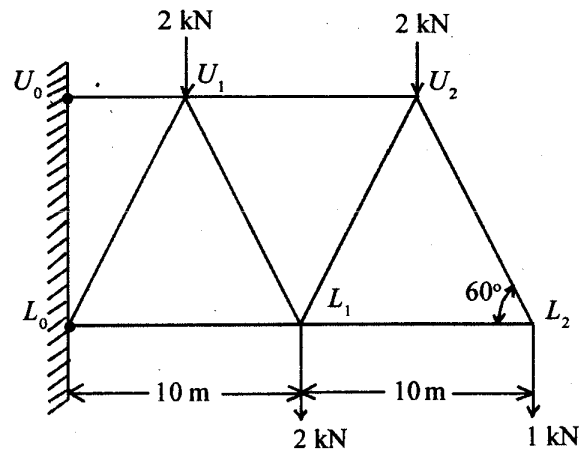

Fig. 3
4. A cantilever truss of Warren-type is loaded as shown in Fig. 3. Determine stresses in the members of the truss. 20